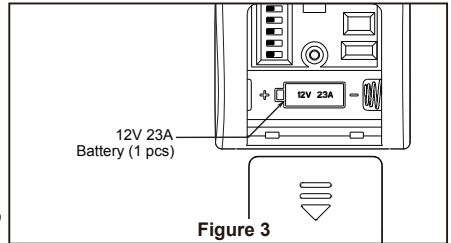

Figure 3
3. To make fan operational, install 23A/12V battery (included) in hand-held remote transmitter, with fan power off. Then follow the remote code setting process. (If not used for long periods of time, remove battery to prevent damage to transmitter). Store the remote away from excessive heat or humidity. (Figure 3)